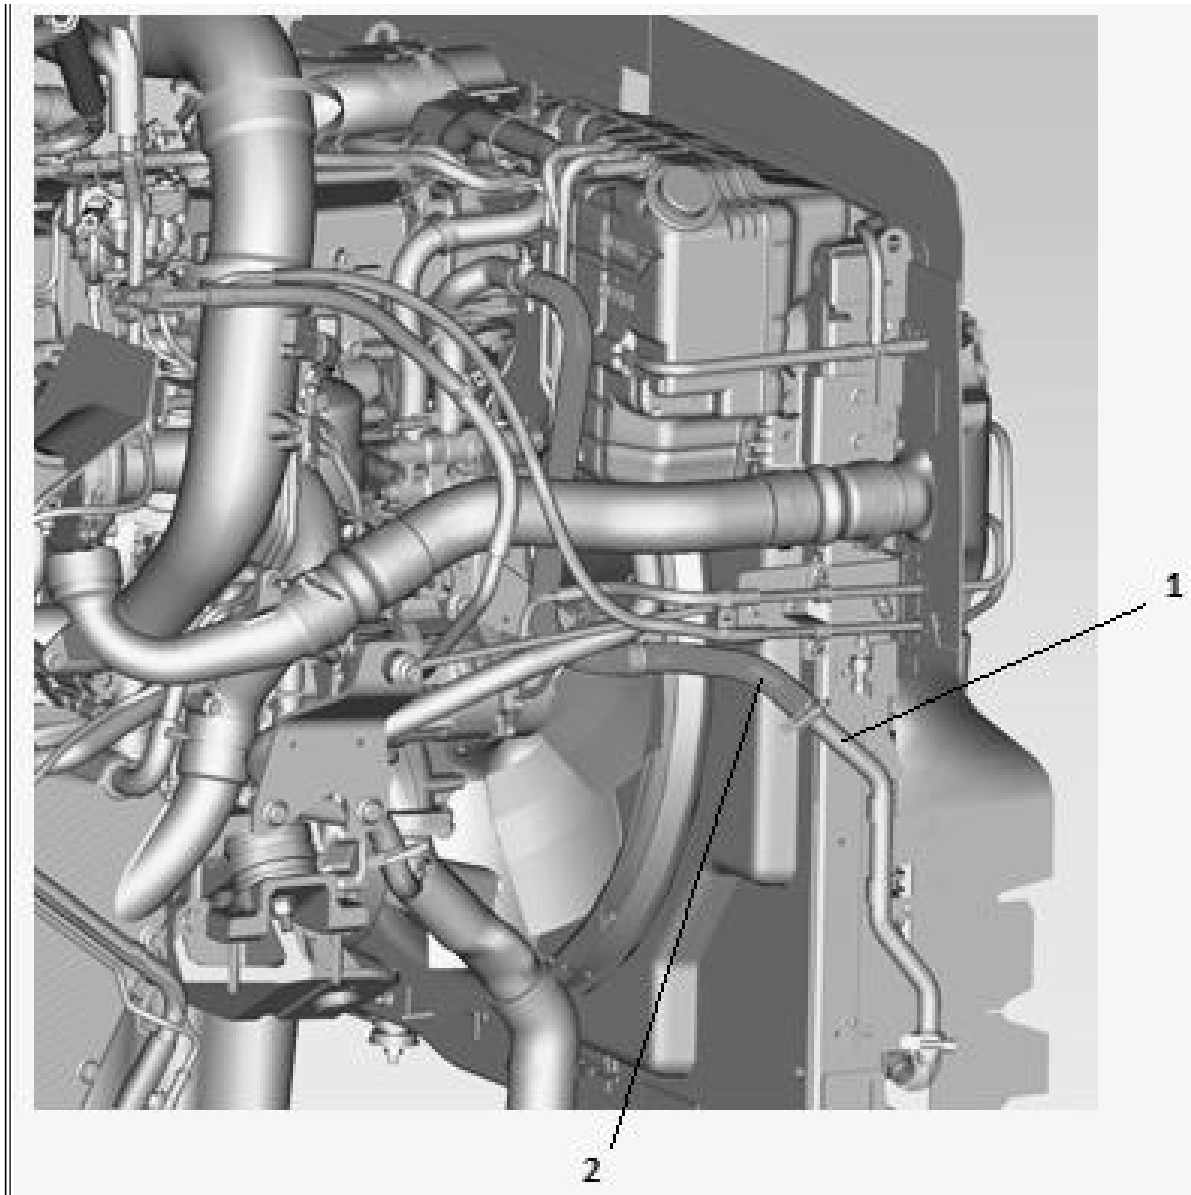
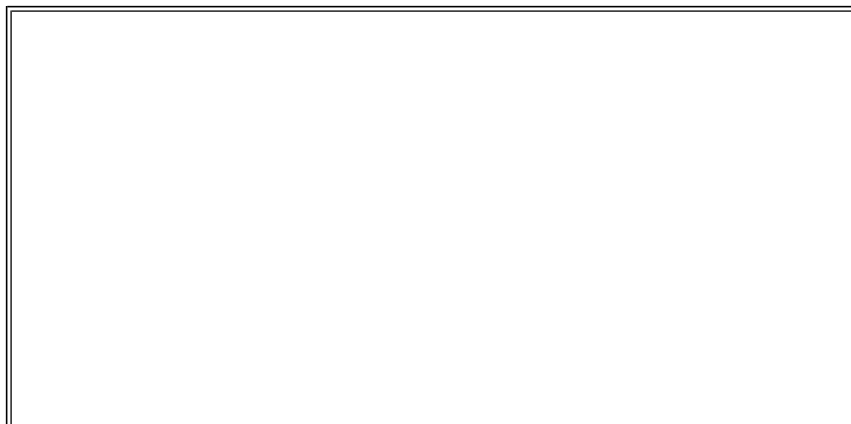
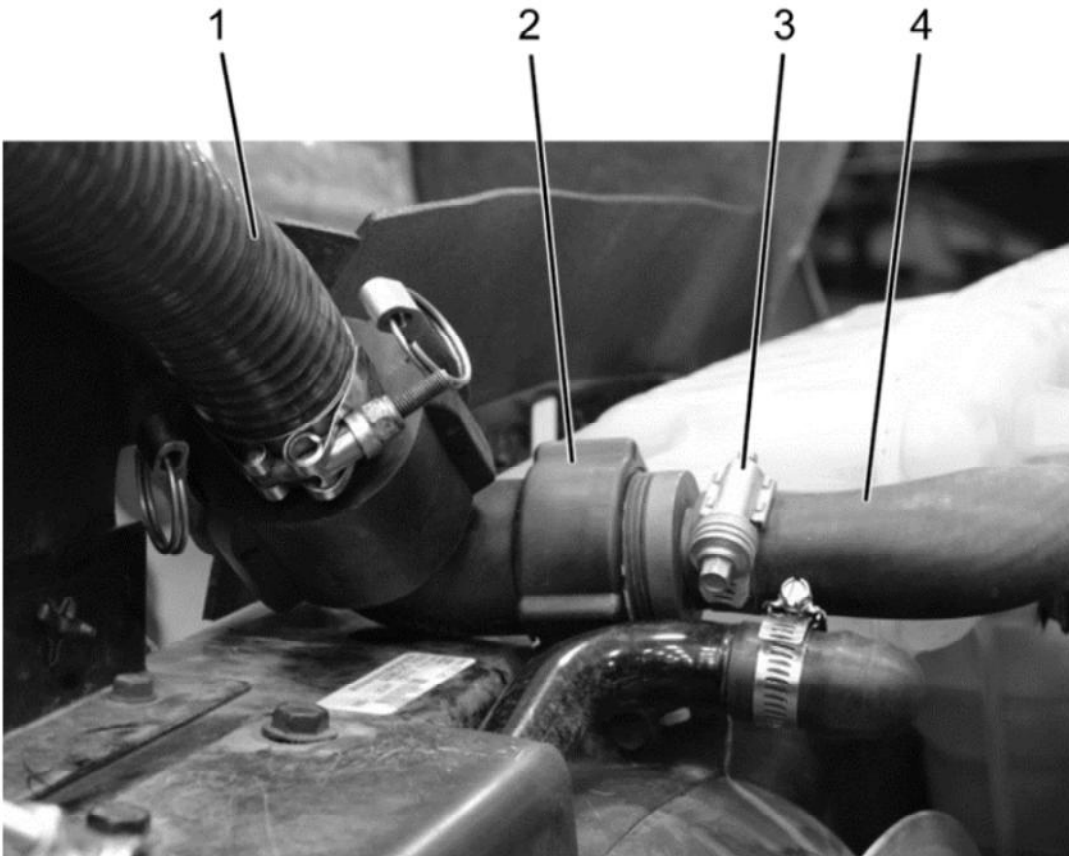

Figure 7: Low Temperature Radiator Tube and Coolant Control Valve Hose
Figure 8: Deaeration Tank
Figure 9: LTR Upper Hose Connections
1. Disconnect the coolant control valve hose illustrated above (**Figure 7**, Item 2) and install two small coolant flush adapters (**Figure 8**, Items 2 and 3)
2. Using cap (**Figure 8**, Item 4), cap off adapter on Coolant Control Valve Hose (**Figure 7**, Item 1)
3. Install Deaeration Tank Adapter (**Figure 8**, Item 2) onto deaeration tank (**Figure 8**, Item 1)
4. Connect Cleaning Management System (12-353-01A) hoses (**Figure 8** Items 3 and 5) to adapters and run for approximately 15 minutes
5. Switch the cap (**Figure 8**, Item 4) and CMS hose (**Figure 8**, Item 5) and run Cleaning Management System (12-353-01A) for an additional 15 minutes
6. Remove small flush adapter (**Figure 8**, Item 5) and cap (**Figure 8**, Item 4), hoses and clamps
3. Install small coolant flush adapter (**Figure 9**, Item 2) into LTR upper hose (**Figure 9**, Item 4) with hose clamp (**Figure 9**, Item 3)
4. Connect CMS hose (**Figure 9**, Item 1 and **Figure 8**, Item 3) onto small coolant flush adapters (**Figure 9**, Item 2 and **Figure 8**, Item 2) and flush for 15 minutes
3. Install small coolant flush adapter to deaeration tank (**Figure 8**, Item 2) and return hose (**Figure 8**, Item 3) and flush for 15 minutes